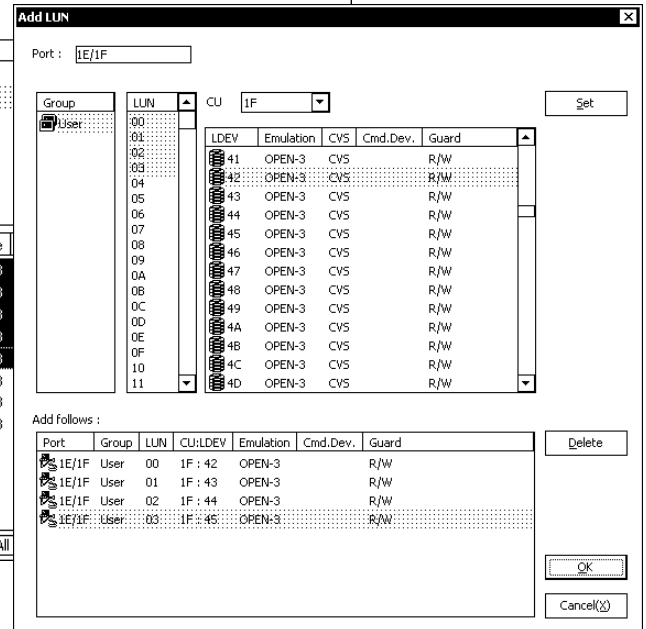

Figure 11.2.2 LUN Registration Window
- ③ Since the LUN Registration window (Figure 11.2.2) is displayed, select the LUN and CU: LDEV, and then select (CL) the [Set] button. The LUN information that has been set is displayed in the “Add follows” list.